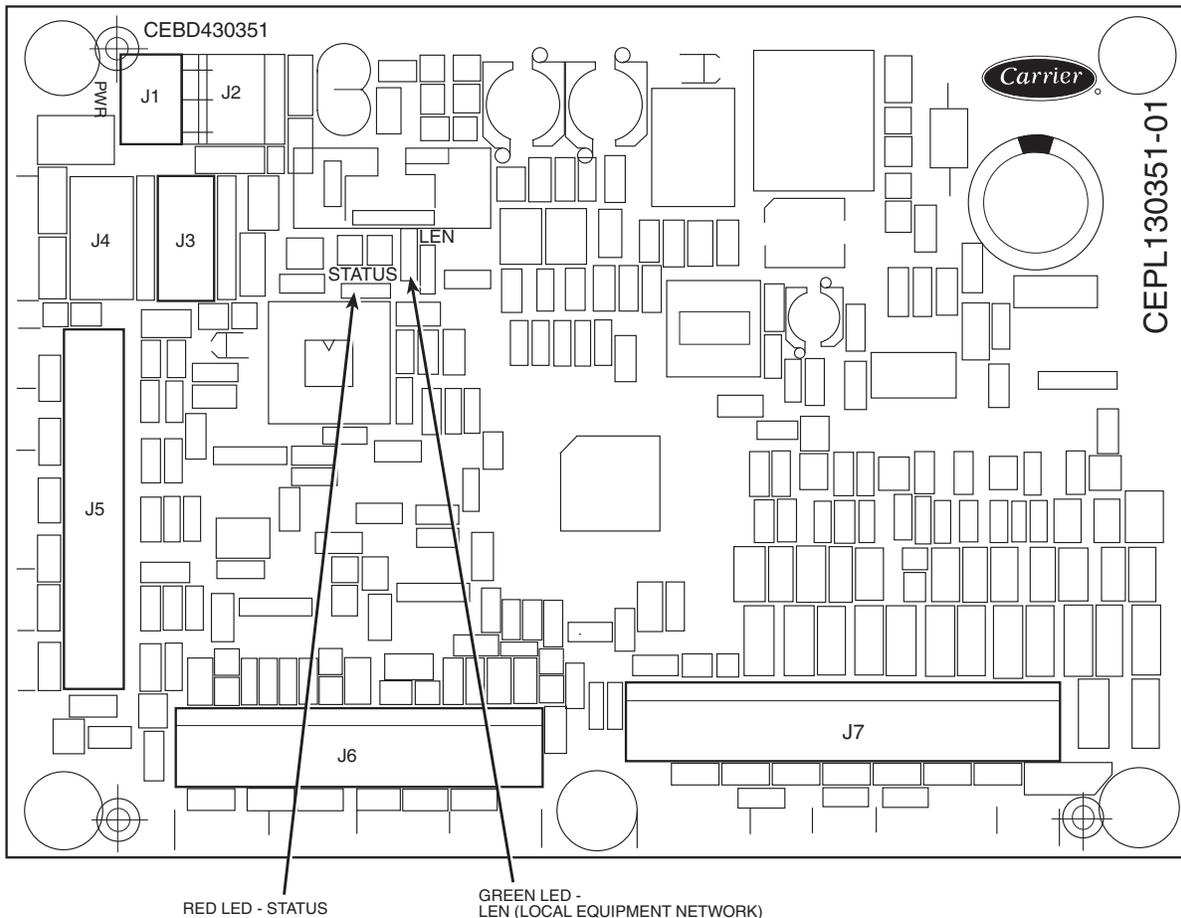

Fig. 3 — CEM Board
8. Connect accessory wire harness plugs CEM-J1, CEM-J6 and CEM-J7 to the J1, J6 and J7 terminals of the CEM Board. See Fig. 3.
7. Connect accessory wire harness plugs CEM-J1, CEM-J3, CEM-J5, CEM-J6 and CEM-J7 to the CEM board. See Fig. 3. For 48/50Z030-105 use harness assembly A1110316502.
Red LED — Proper operation of the control boards can be visually checked by looking at the red status LEDs as shown on Fig. 3 and 6. When operating correctly, the red status LEDs on all boards should blink in unison at a rate of once every 2 seconds (1 second ON, 1 second OFF). If the red LEDs on all boards are blinking, but not in unison, then either the communication wiring between boards is incorrect, one or more of the boards is faulty, or there is a software problem.